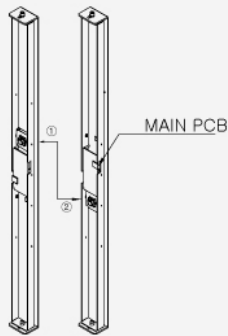

Figure-2
- * From ① to ② to change the camera position and main pcb rotate 180° from original position. (See Figure-2)